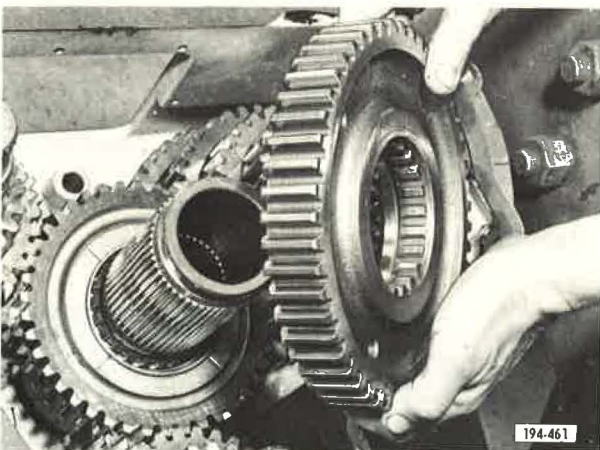

Figure 25. Installing Second Speed Gear
7. Install second speed gear (clutch teeth to the rear) with thrust washer over second/third speed sliding clutch and engage with the countershaft second speed gears. See Figure 25.